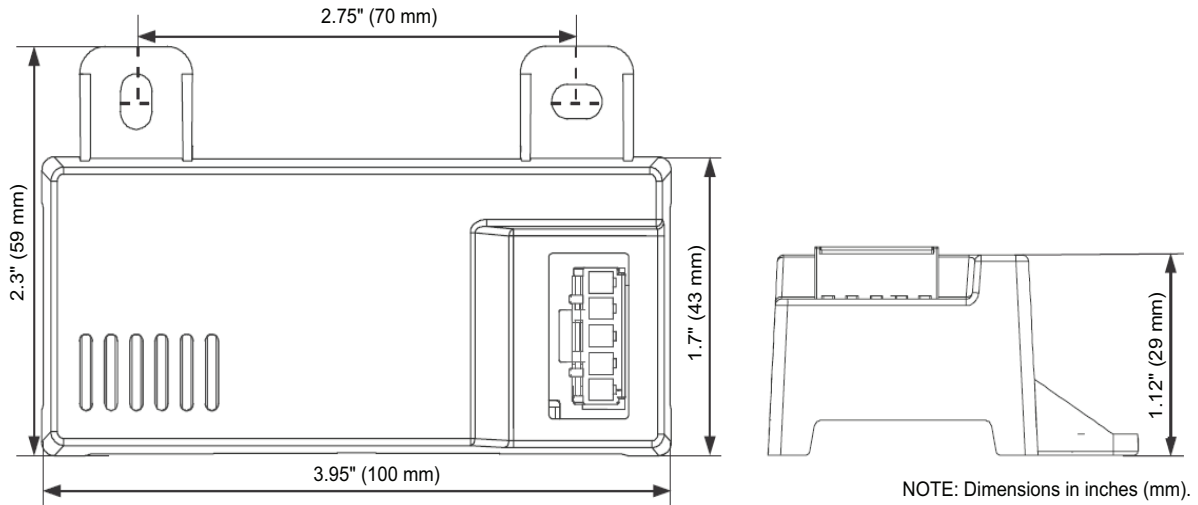
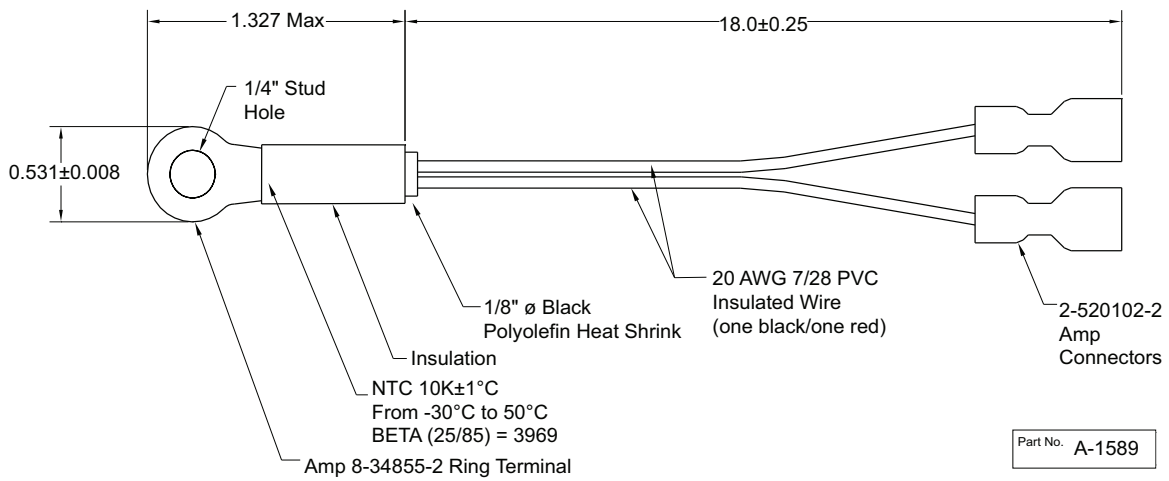
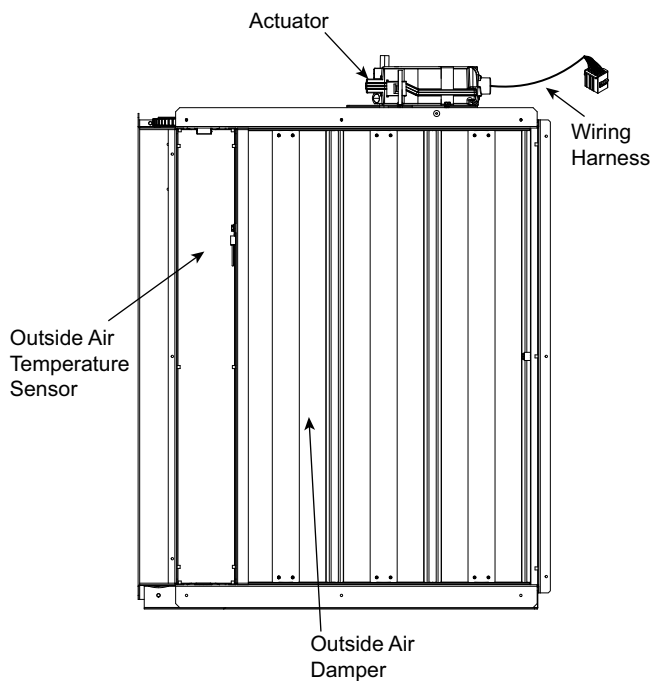

Fig. 90 – HH57LW001 Dimensional, Connection and Switching Information
Fig. 91 – HH79NZ039 Dry Bulb and Mixed Air Sensor Wiring
Fig. 92 – EconomizerONE Component Locations (CRECOMZR108A00 Shown)
When using the HH57LW001 enthalpy sensor (see Fig. 90) for outside air changeover, the existing HH79NZ039 dry bulb sensor (see Fig. 91) must be removed. The enthalpy sensor will be mounted in the same location as the dry bulb sensor (see Fig. 92). When the enthalpy sensor's OA (Outside Air) temperature, enthalpy, and dew point are below their respective setpoints, the outside air can be used for free cooling. When any of these are above the setpoint, free cooling will not be available. Enthalpy setpoints are configurable and create an enthalpy boundary according to the user's input. For additional details, see Fig. 93-94 and Table 41.
The optional enthalpy control sensor (P/N: HH57LW001) communicates with the POL224 economizer controller using the 5-wire harness, 48TC005213. The HH57LW001 sensor can be used as a single outside air enthalpy, a differential return enthalpy, or a differential return temperature sensor. Refer to the base unit control wiring diagrams found earlier in this book to wire the HH57LW001 enthalpy sensor for each option. Use Fig. 90 and Table 43 on page 73 to locate the wiring terminals for each enthalpy control sensor.
Economizers are shipped standard with an HH79NZ039 outside air dry bulb sensor (see Fig. 91). System default setting (high temp limit) is 63°F (17°C) and has a range of 48°F to 80°F (9°C to 27°C). Sensor is factory installed on economizer.
If installing the optional HH57LW001 enthalpy sensor, the HH79NZ039 dry bulb outside air sensor must first be removed. Wire sensor to harness 48TC005213 and the (5) wires from the harness to the EconomizerONE harness in the return air chamber. Harness 48TC005213 has a 5-pin plug that connects directly to the HH57LW001 enthalpy sensor. Refer to the base unit control wiring diagrams earlier in this book for wiring connections. Refer to Fig. 90 and Table 43.